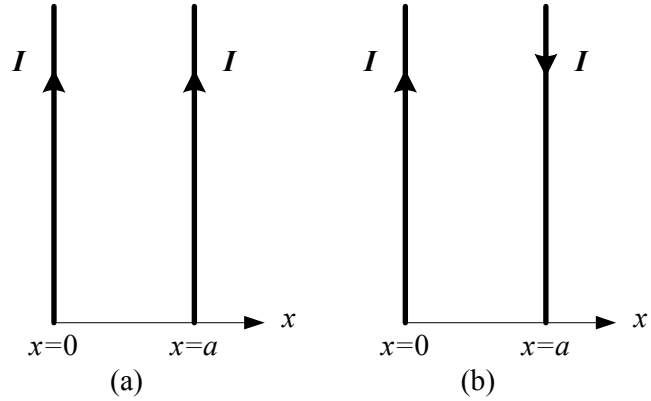

Figure 2: Two parallel straight conductors with (a) currents in same directions (b) currents in opposite directions
where  $a$  is the distance between the conductors. Equation (2) applies to the case when the currents flow in the same direction and equation (3) applies when the currents flow in the opposite directions as shown in figures 2 (a) and (b) respectively.